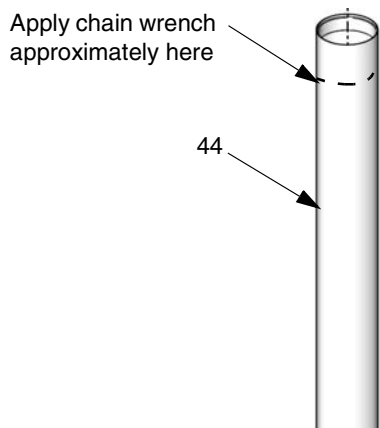
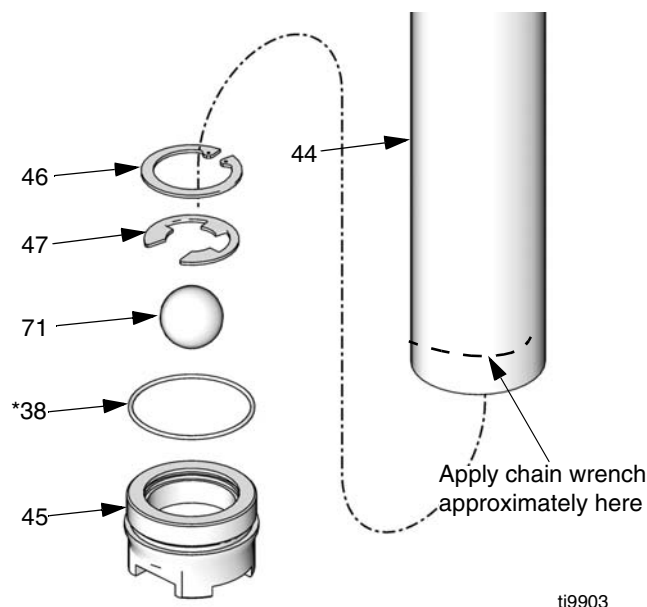

FIG. 17
FIG. 18
1. Use a chain wrench near the top of the suction tube at the point indicated in FIG. 17, and a wrench on the flats of the foot valve (45) to loosen the foot valve from the suction tube (44). To prevent damage to the suction tube, do not remove the foot valve until instructed to do so in step 3.
NOTE: When removing the suction tube, be very careful not to bend, dent, or damage it. To avoid damage, use the chain wrench only at the top and bottom of the suction tube as indicated in FIG. 17 and FIG. 18. Do not apply the wrench to the middle of the suction tube.
2. With the foot valve still in place to support the suction tube, use a chain wrench near the bottom of the suction tube at the point indicated in FIG. 18, to loosen the suction tube (44) from the pump body (34).
3. Remove the foot valve assembly from the suction tube (44).
4. Remove retaining ring (46), snap ring (47), ball (71), and o-ring (38*) from foot valve (45). Inspect all parts for damage. See FIG. 18.